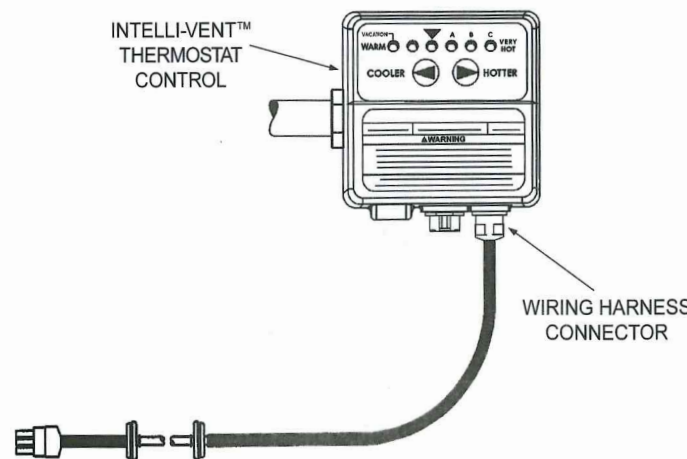

FIGURE 12.
17. Locate the wiring harness and connector that comes out of the water heater's jacket and plug the connector into the Intelli-vent™ Thermostat Control, (184960 Series), see Figure 12.